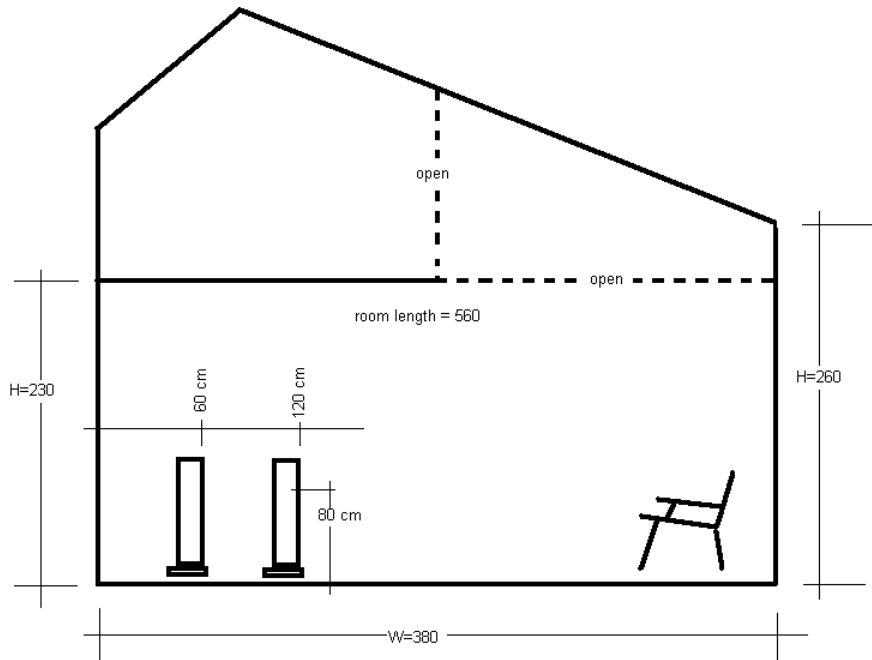

Fig.8. Cross-section of listening room.
The aim of this chapter is to present some experiments done on setting up the 2.5 clones in my living room in order to achieve the best possible sound. The dimensions of the room are 380 (W) x 560 (L) x 230/260 (H) and it has a rather unusual cross-section as seen from the drawing, fig. 8: